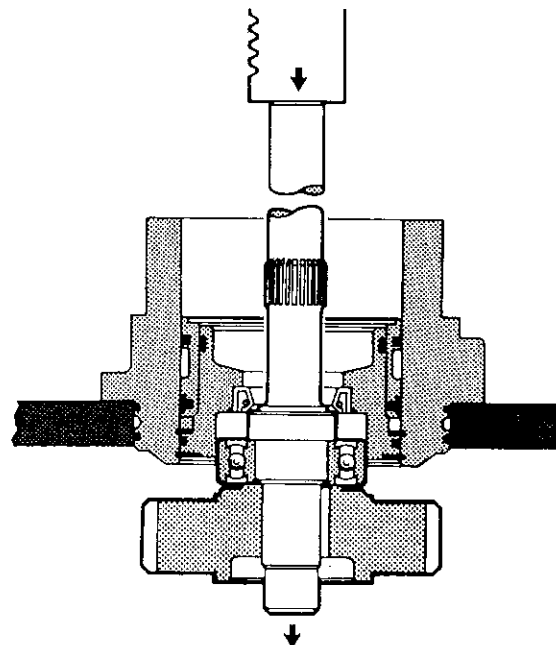

Figure 5.8
15. Support the drive housing and press out drive shaft (28), drive shaft bearing (10), and drive gear (9) as shown in Figure 5.8.